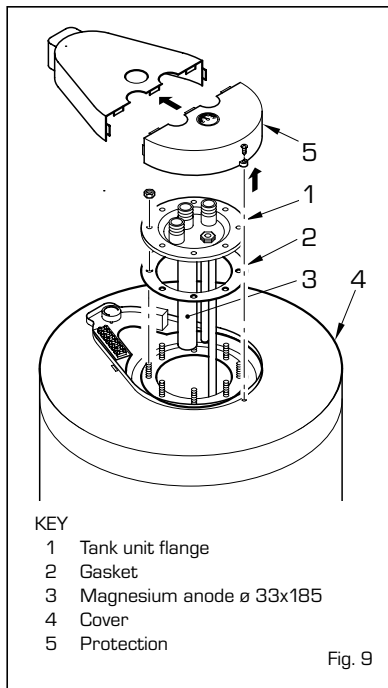

Fig. 9
The tank unit comes with a protection magnesium anode (fig. 9). This non-rust anode in normal operating conditions has a life span of 5 years. It is, however, advisable to check the erosion annually and replace it if worn. To disassemble the tank unit flange (1), remove the cover (5) and unscrew the two nuts that fix the upper cover (4). Then lift the upper cover (4) which is simply inserted with pressure.